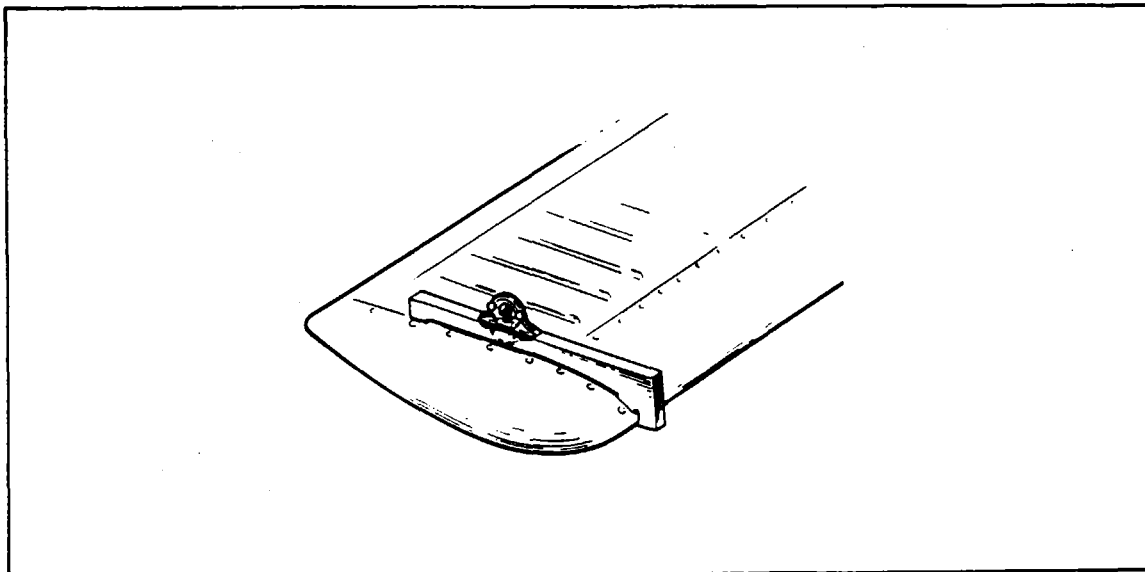

Figure 5-6. Stabilator Rigging Tool
2. Place the stabilator in neutral position. Neutral position is obtained when a level placed on stabilator rigging tool (Figure 5-6) indicates that stabilator is parallel with leveling holes noted in Figure 2-6.
3. Check the stabilator travel by placing a rigging tool on the upper surface of the stabilator as shown in Figure 5-6. (This tool may be fabricated from dimensions given in Figure 5-21.)
- c. Secure the stabilator in neutral position. To find neutral, place a rigging tool on the upper surface of the stabilator as shown in Figure 5-6. Zero a bubble protractor, set it on the rigging tool and tilt the stabilator until the bubble is centered.